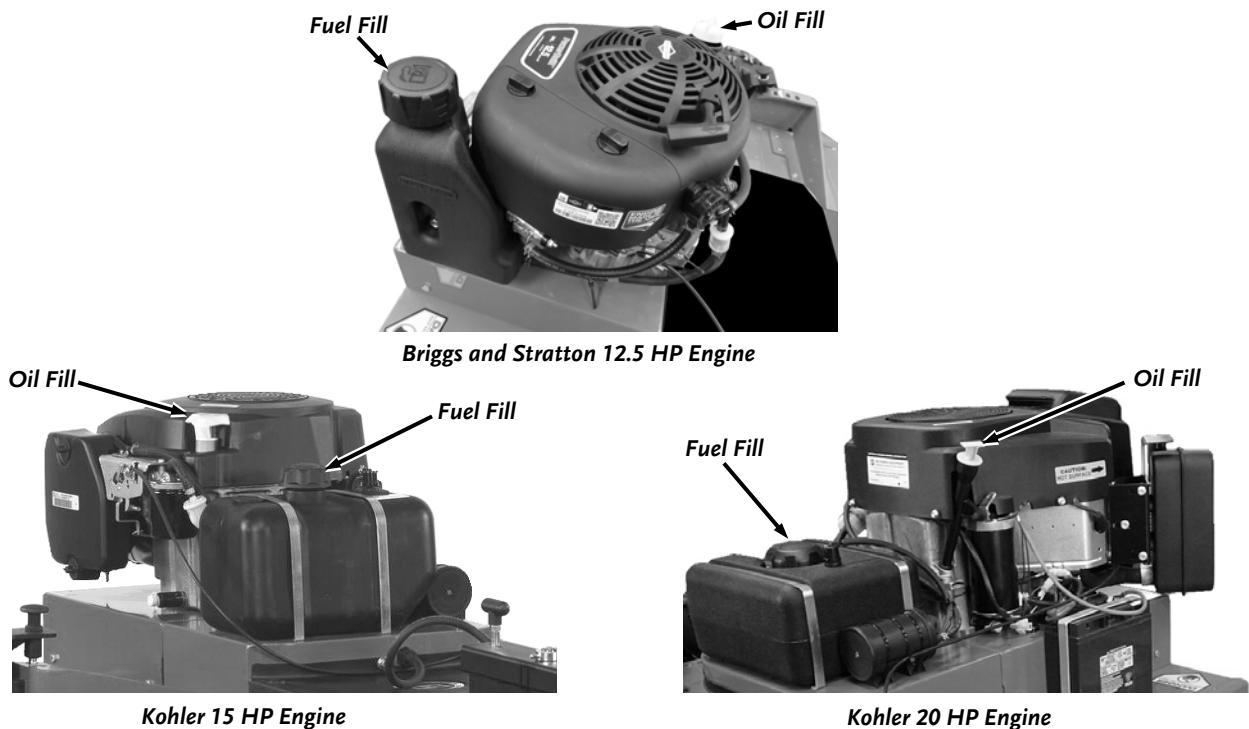

Figure 4
- Place the machine on a level surface and initially add 32 oz. of SAE 30 High Detergent oil (recommended by the Engine Manufacturer) into the Oil Fill (**Figure 4**) and wait one minute for the oil to settle.